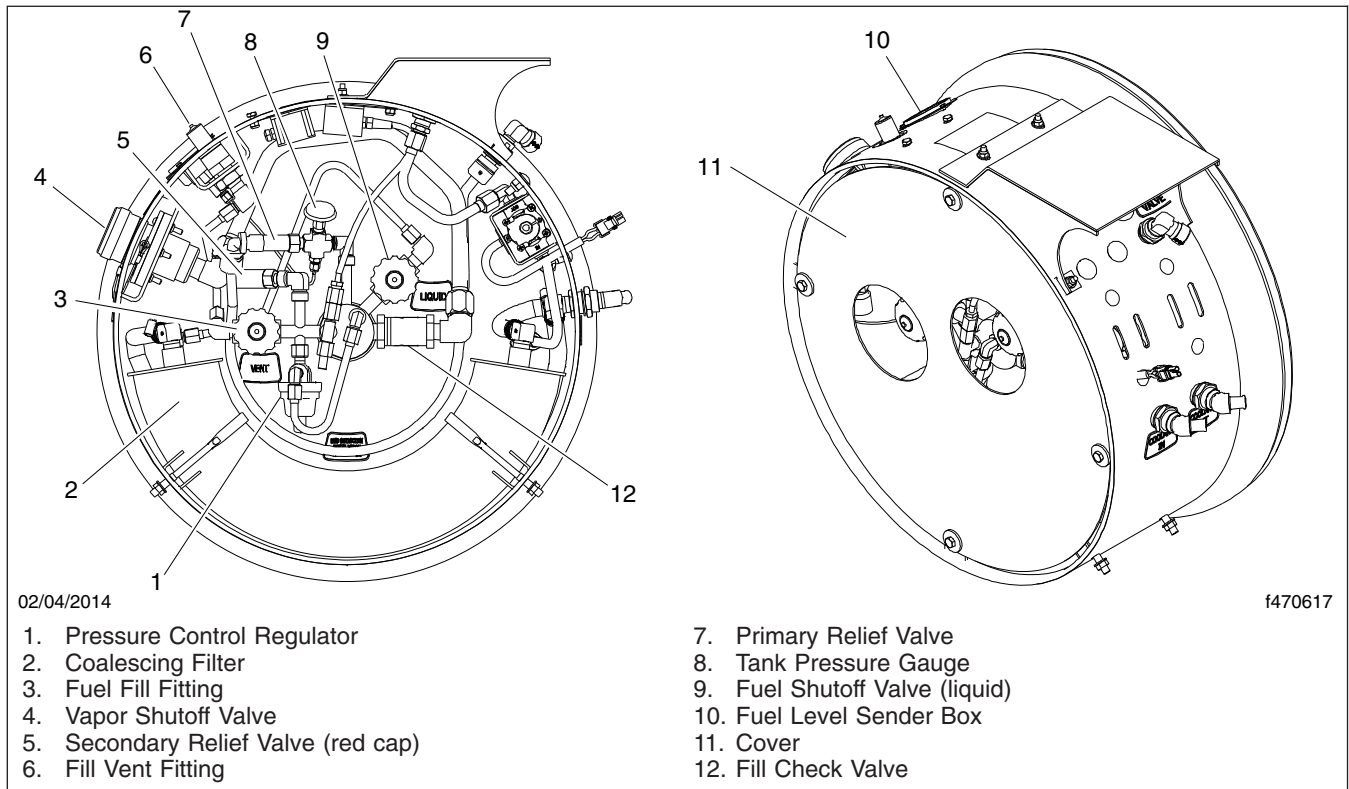
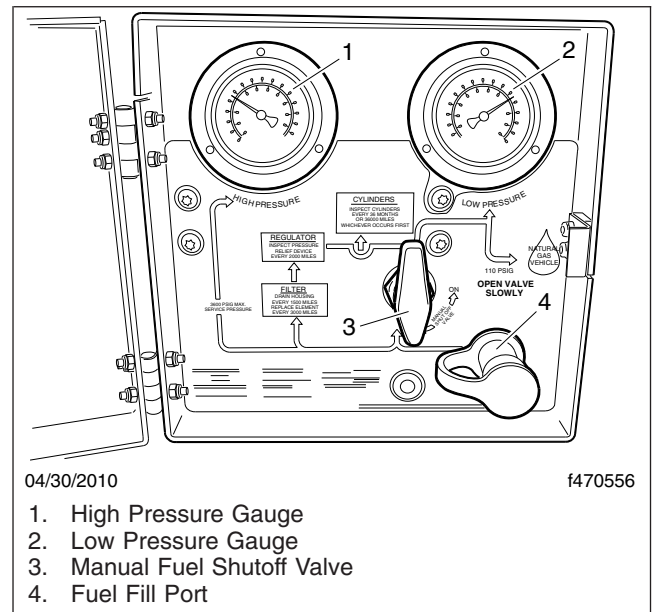

Fig. 21.10, LNG Tank Plumbing Components
Fig. 21.11, CNG Fuel Panel
LNG Fuel System: A red cap should be present on the secondary relief valve. See Fig. 21.10.
4. Inspect all plumbing components, including the fuel shutoff valve(s), primary and secondary relief valves, and the LNG vapor shutoff and excess flow valves, if equipped, for signs of damage or leaks. See Fig. 21.10 or Fig. 21.11.
8. Inspect the LNG vaporizer for signs of damage or leaks. See Fig. 21.10. Inspect the vaporizer mounting brackets for signs of looseness.